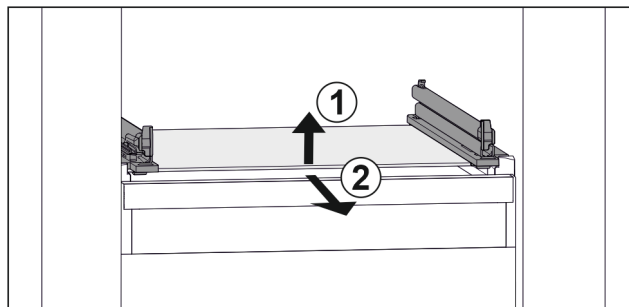

Fig. 28 Example illustration of glass shelf
- ▶ Lift glass shelf at the front. Fig. 28 (1)
- ▶ Remove glass shelf to the front. Fig. 28 (2)